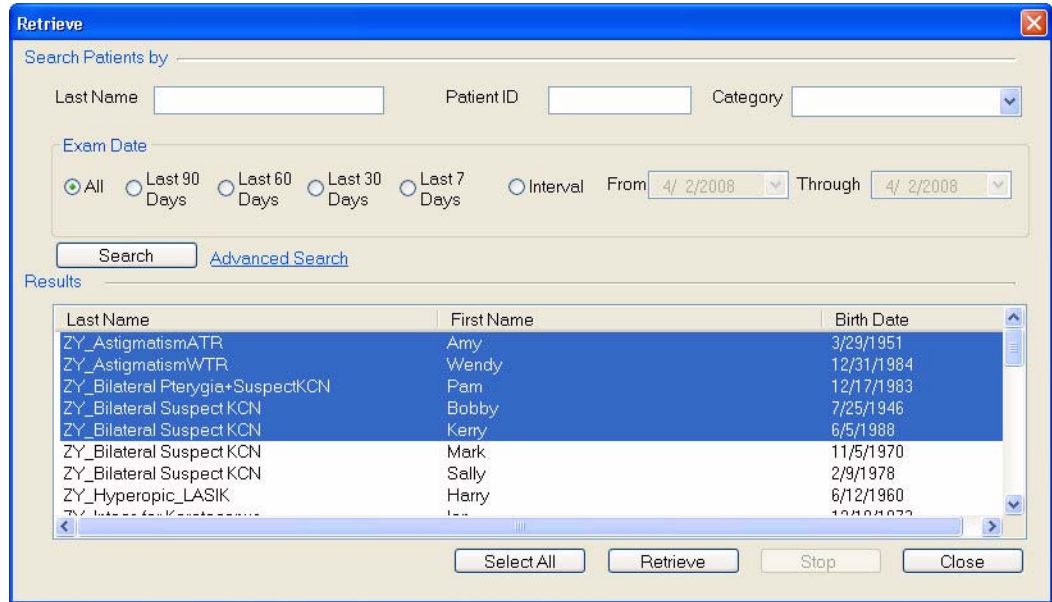

Figure 10-28 The Retrieve Dialog with Selected Patients
5. When you have made your selections, click **Retrieve** (Figure 10-28).